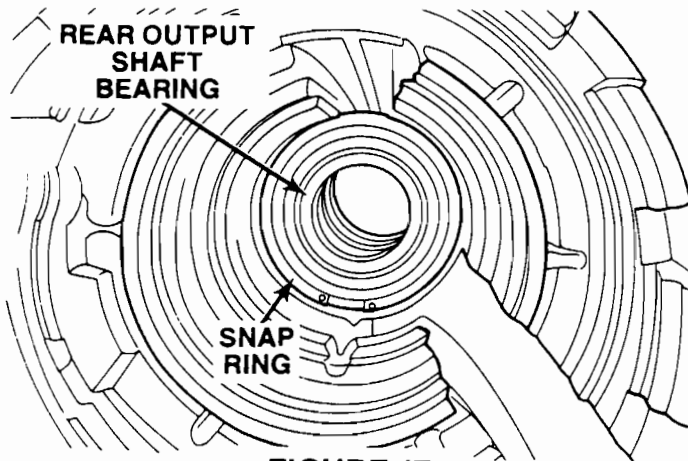

FIGURE 17
8. Using locking snap ring pliers, remove the output shaft rear bearing snap ring (Figure 17).